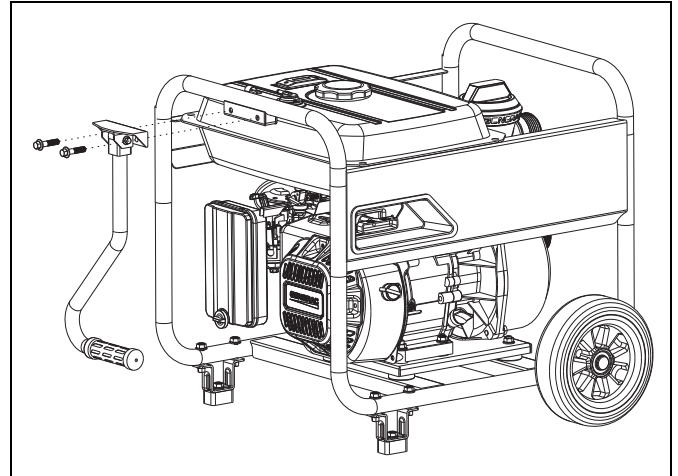

Figure 4-2. Attach Handle
2. Attach Handle (Figure 4-2).